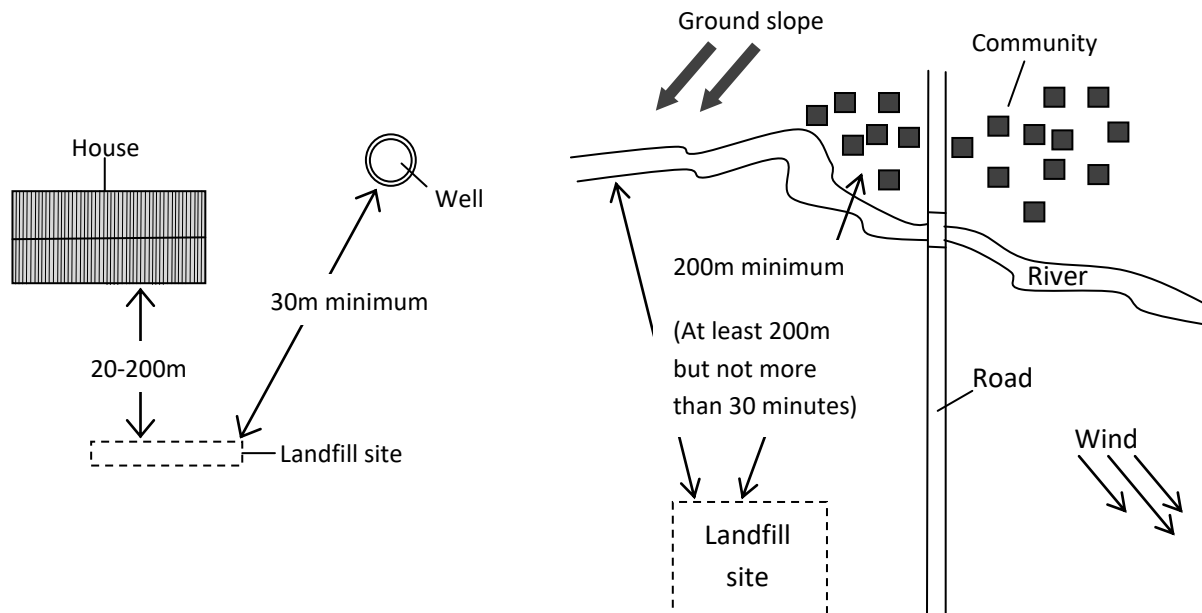

Figure 12-1: Landfill locations for household/compound (left) / community (right).
2. **Distance:** A landfill must be far enough from wells and streams to protect water supplies from contamination, far enough from dwellings to prevent causing a nuisance, and close enough to the source of the waste to avoid excessive transport. If you are making a landfill site for one house or compound, it should be at least 30 metres, preferably downhill, from wells and streams. A community landfill should be at least 200 metres, preferably downhill, from wells and streams and at least 200 metres from the nearest dwelling (see Figure 12-1).